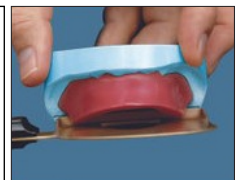

Figure: 6
6. Rotate the model slowly so the rim former melts the wax rim to the line marked on the front of the rim. Be sure the rim former stays firmly seated in the notches. (Figure 6)